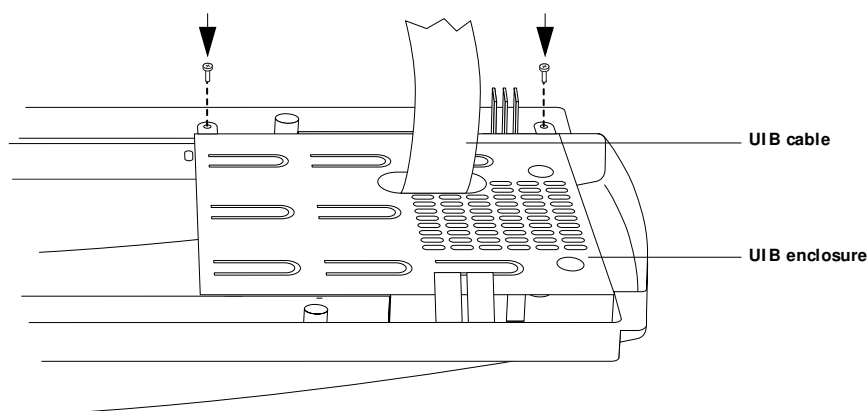

FIGURE 4-15 Removing the UIB enclosure
5. Place the UIB enclosure over the user interface board and secure it with the two screws (see Figure 4-15 on page 4-21).